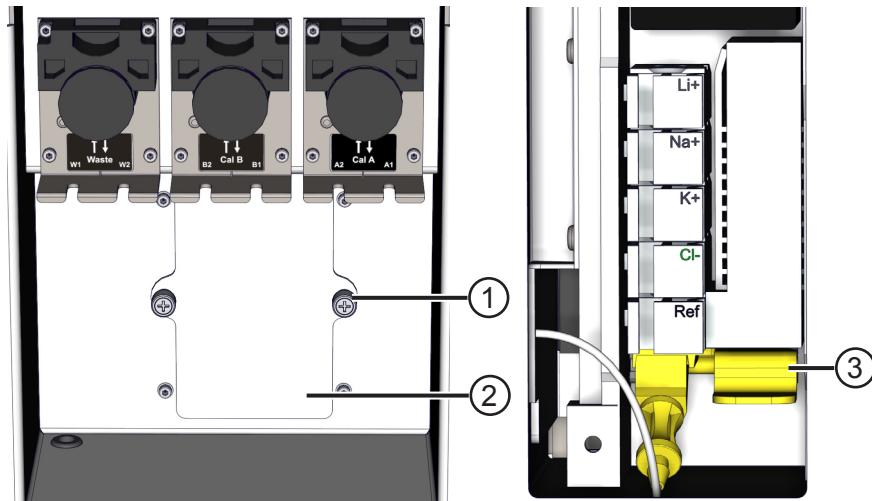

Figure 19 **Tube connection**
After opening the front cover the ISE module can be directly accessed. See Figure 19.
2. Unscrew both screws by hand (1) to access the compartment (2) for positioning the electrodes.
5. To insert the reference electrode press the yellow tab downward (3) and insert it as far as it will go. Then release the tab.
6. Insert the other electrodes in the positions shown in Figure 19. Check that their sealing rings (O-rings) are correctly positioned. Carefully dry any traces of liquid.